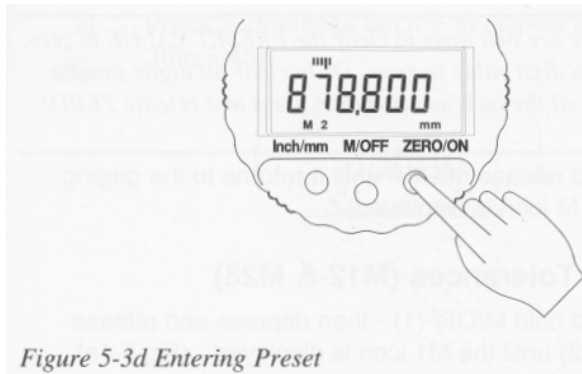

Figure 5-3d Entering Preset
- 4) To select and change the digital value, position the cursor above the digit location to be changed. Press the ZERO/ON to select the digital value. Press and release the ZERO/ON key to advance to the available digits of 0 thru 9. (Fig.5-3d)